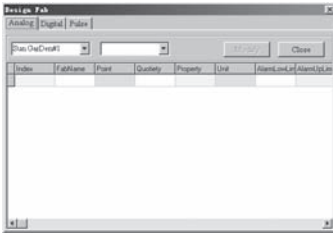

Fig.4.10
Click <Monitor> <Design Comat BoxX> or the **quick icon** , the system will display the Comat BoxX definition interface, as in Fig. 4.10.
A) Digital Points Properties Definition Dialogue Box (Fig. 4.10)